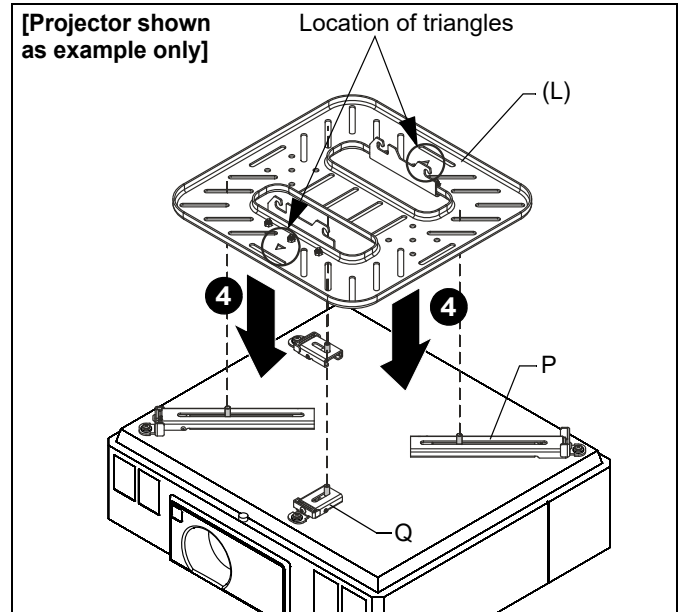

Figure 3
NOTE: The triangles on the interface assembly (L) should be facing towards the screen and away from the screen when attached to the projector. (See Figure 3)
3. Position sliding stud brackets on legs so that VCTU interface assembly (L) can be evenly mounted to legs. (See Figure 3)
4. Place interface assembly (L) over sliding stud brackets in all legs. (See Figure 3)